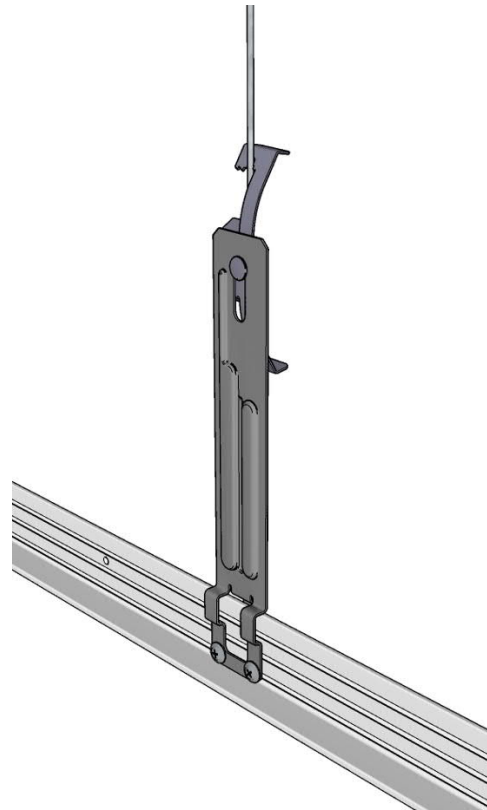

FIG. 20
2. The **Arcoplast TR-7500 Bracket** is to be used as an alternative method to attach the **TR35 Mainrails**. The **TR-7500 Bracket** is useful to attach **TR35** to heavy gauge (#8) mounting wire or 1/4" (6.35 mm) plain rod which then is attached directly to building structure. FIG 20